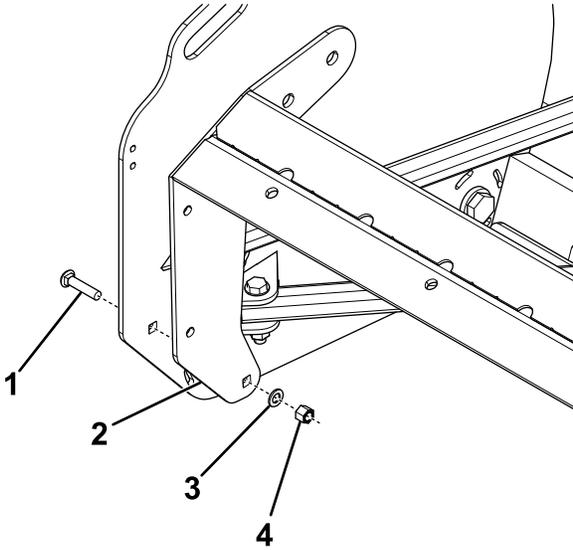

Figure 3
- Rotate the plow shoe out of the way and secure the bottom of the blade section to the plow wing using a bolt (1/2 x 2-1/4 inches), washer, and locknut (Figure 3).